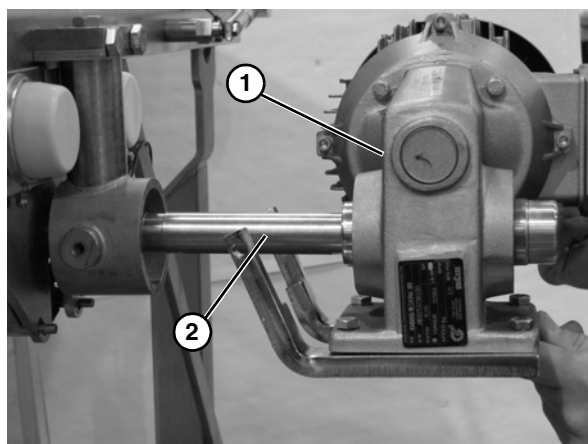

Figure 60
8. Slide the gearmotor assembly (Figure 60, item 1) off of the drive spindle (Figure 60, item 2).